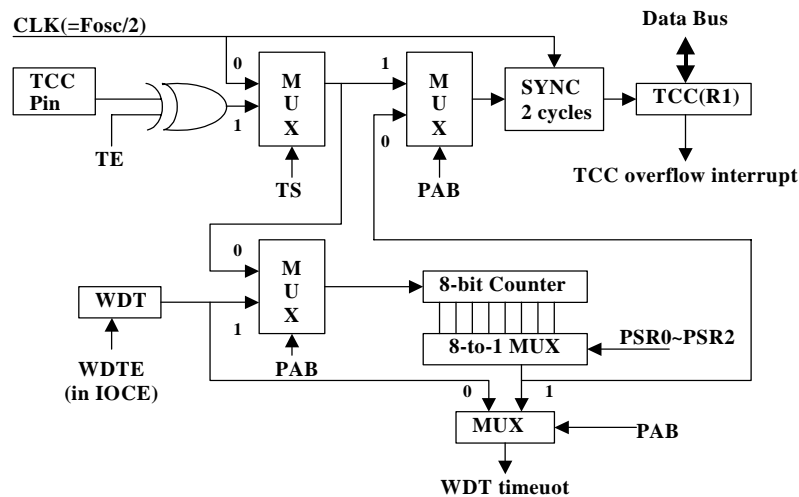

Fig. 6 TCC and WDT Block Diagram
An 8-bit counter is available as prescaler for the TCC or WDT. The prescaler is available for either the TCC or WDT only at any given time, and the PAB bit of the CONT register is used to determine the prescaler assignment. The PSR0~PSR2 bits determine the ratio. The prescaler is cleared each time the instruction is written to TCC under TCC mode. The WDT and prescaler, when assigned to WDT mode, are cleared by the “WDTC” or “SLEP” instructions. Fig. 6 depicts the circuit diagram of TCC/WDT.
- R1 (TCC) is an 8-bit timer/counter. The clock source of TCC can be internal or external clock input (edge selectable from TCC pin). If TCC signal source is from internal clock, TCC will increase by 1 at every instruction cycle (without prescaler). Referring to Fig. 6,  $CLK = Fosc/2$  or  $CLK = Fosc/4$  selection is determined by the CODE Option bit CLK status.  $CLK = Fosc/2$  is used if CLK bit is "0", and  $CLK = Fosc/4$  is used if CLK bit is "1". If TCC signal source comes from external clock input, TCC is increased by 1 at every falling edge or rising edge of TCC pin.